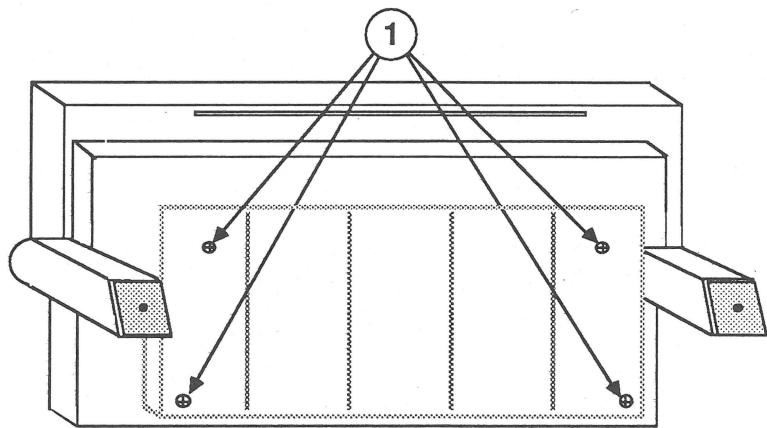

FIGURE 20
7. Replace the four screws that hold the bottom cover in place (Figure 20, #1).